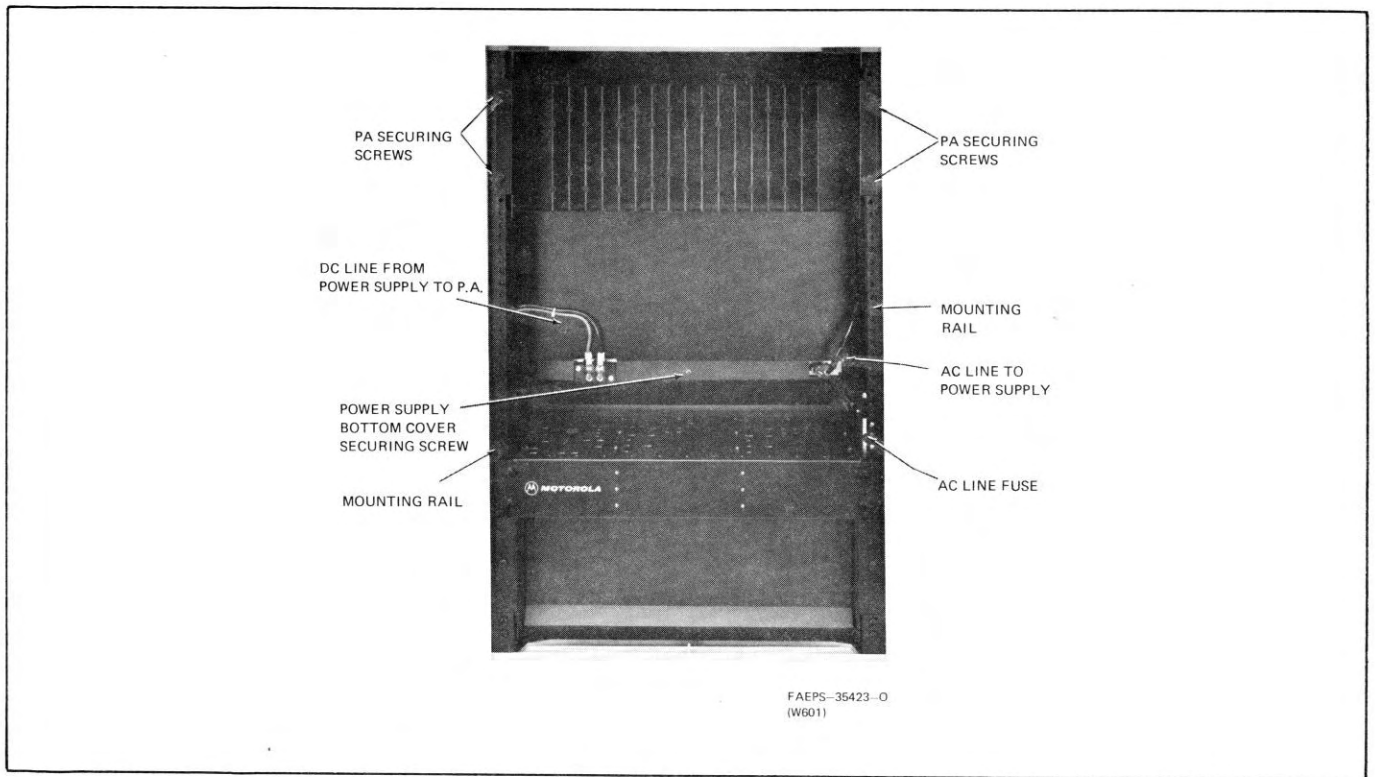

Figure 3. PA and Power Supply Detail of Continuous Duty Station
5.2.2.1 To gain access to the power amplifier boards for servicing and metering, remove the 4 black power amplifier securing screws. Swing the PA chassis assembly out and down (it is hinged at the bottom). Metering is accessible without removing any covers. Remove 12 screws holding the cover over the PA and power control board for servicing the PA (refer to Figures 3 and 4).